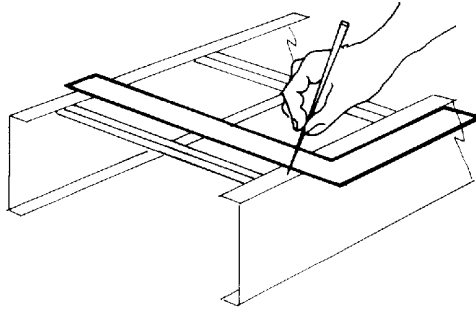
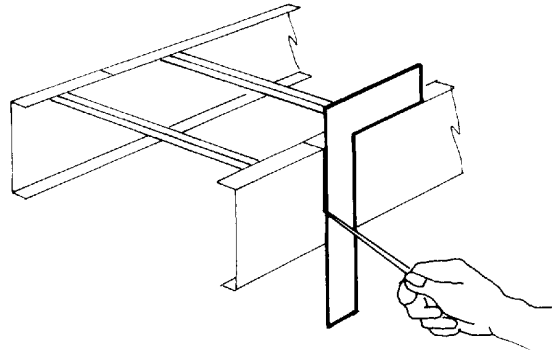

Figure 4.31
Figure 4.32
4.5.1 Marking (See Figures 4.31 and 4.32)
Using a square that reaches across the width of the cable tray, gauge off the edge of one side rail and mark both flanges (Figure 4.31). Next, position the square as shown in (Figure 4.32) and mark the web of the rail. Marking can be done with a scribe, marking pen, or a pencil.